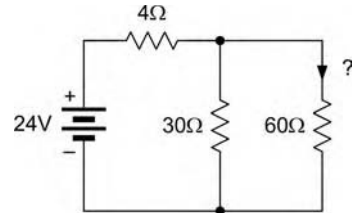

Figure 5.212
36. Which one of the following gives the current flowing in the $60\ \Omega$ resistor as shown in Figure 5.212?